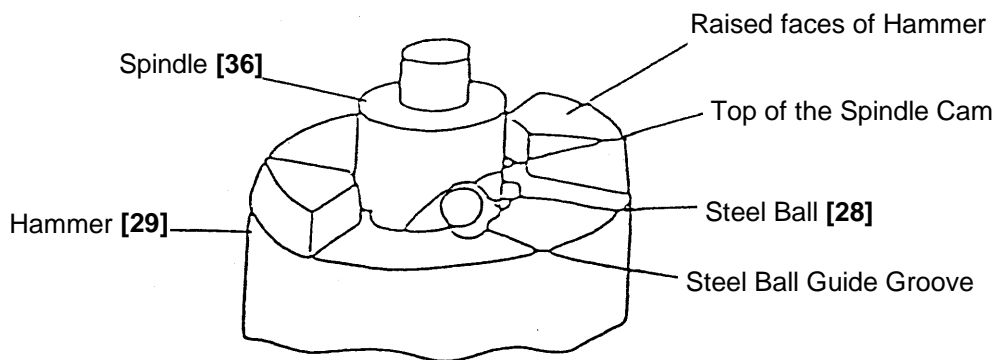
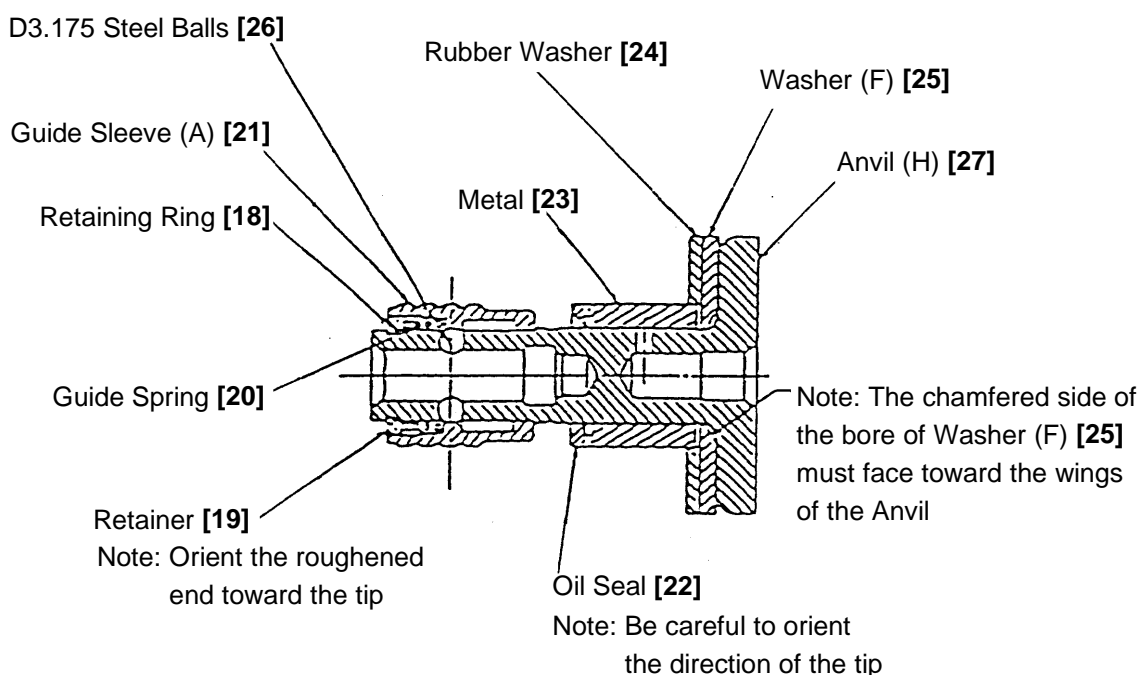

Fig. 16
Fig. 17
(2) Hammer and Spindle section
- (a) Press-fit the Final Gear **[35]** from the top of the Spindle, insert Washer (A) **[34]** and fit it into the groove of Spindle **[36]** with the chamfered face of Stopper **[33]** facing up. Then insert Spring **[32]**, and with 21 Steel Balls **[30]** [(3.97 mm dia. (5/32"))] and Washer (G) **[31]** placed in the Hammer, mate the Hammer with Spindle **[36]**.
- (b) Bring the apex of the cam groove provided in the Spindle **[36]** in Fig. 16 on page 24 into alignment with the Steel Ball receiving groove in the Hammer **[29]**. Press down by hand one of the lugs at the Hammer end to compress Spring **[32]**, and compress Stopper (A) **[33]** at end face of the Hammer **[29]** until it rests on Spindle **[36]** to support it.
(3) Assembly of mechanical parts into Housing (A)
- (a) Spline the Anvil (H) **[27]** with its assembly parts shown in Fig. 17 to the Spindle and install in Housing (A). Fit Washer (A) **[38]** behind the Ball Bearing **[37]**.
- (b) Align the recess in the Motor **[44]** with the projection in Housing (A) to prevent angular movement. Take care that the Internal Wire (black) passes under Motor **[44]** without being caught in the joint.
- (c) Insert the Metal **[42]** into the Second Pinion **[41]** and install in Housing (A) so that the gears mesh. Since the Metal **[42]** has a double-face width, register it with the Housing.
(4) Grease